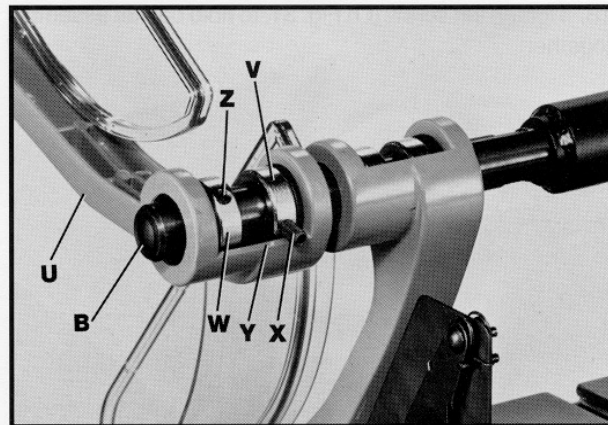

Fig. 35
22. Make sure end of extension arm (B) Fig. 35, extends at least 1/2" out beyond casting, as shown, and the basket arm (U) is to the rear as shown. Position collar (V) so set screw (X) contacts casting (Y) and tighten set screw (X). **NOTE:** Set screw (X) should contact casting (Y) when the basket arm (U) is to the rear far enough so it will not vibrate forward. Then move collar (W) to the left as far as possible and tighten set screw (Z).